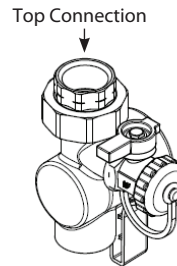

Figure 2: Cold Water Service Valve
- Install the COLD WATER SERVICE VALVE (Figure 2) onto the cold water inlet of the tankless water heater.
- Holding the cold water valve beneath the cold water inlet, thread the union tailpiece onto the inlet and hand tighten. Using a wrench, tighten the union tailpiece. Next, position the cold water valve with (1) the purge port pointing in an accessible location and (2) adequate clearance for operation of the main valve handle, then hand tighten the union nut.